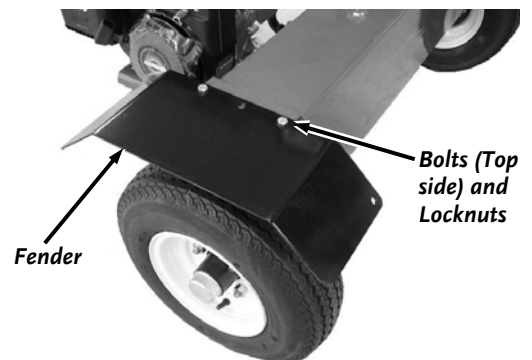

Figure 21
20. Bolt the fenders onto the fender brackets using two 5/16-18 x 3/4 inch long hex head bolts and locknuts (**Figure 21**). The fenders are interchangeable (left or right). Position the fender over the tire with equal spacing in the front and back.